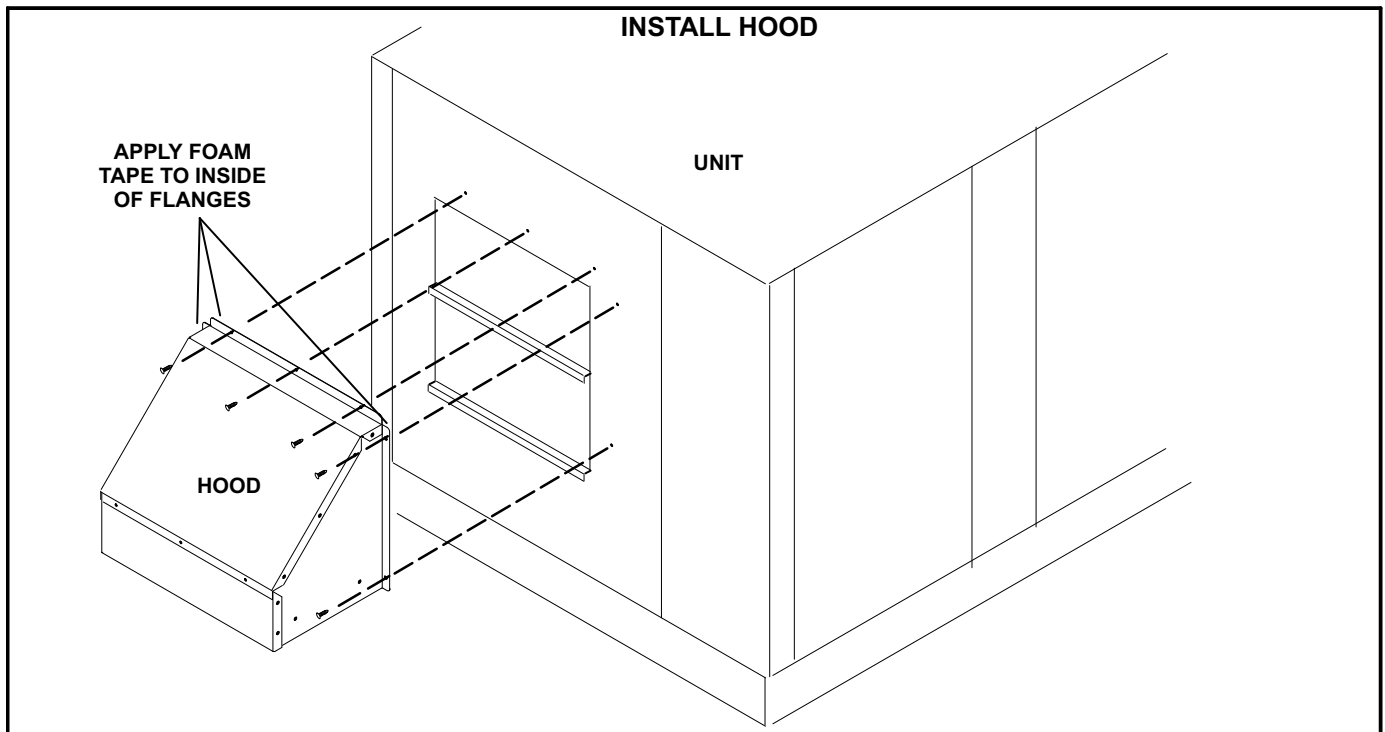

FIGURE 12
- 3- Secure hood to unit as shown in figure 12.